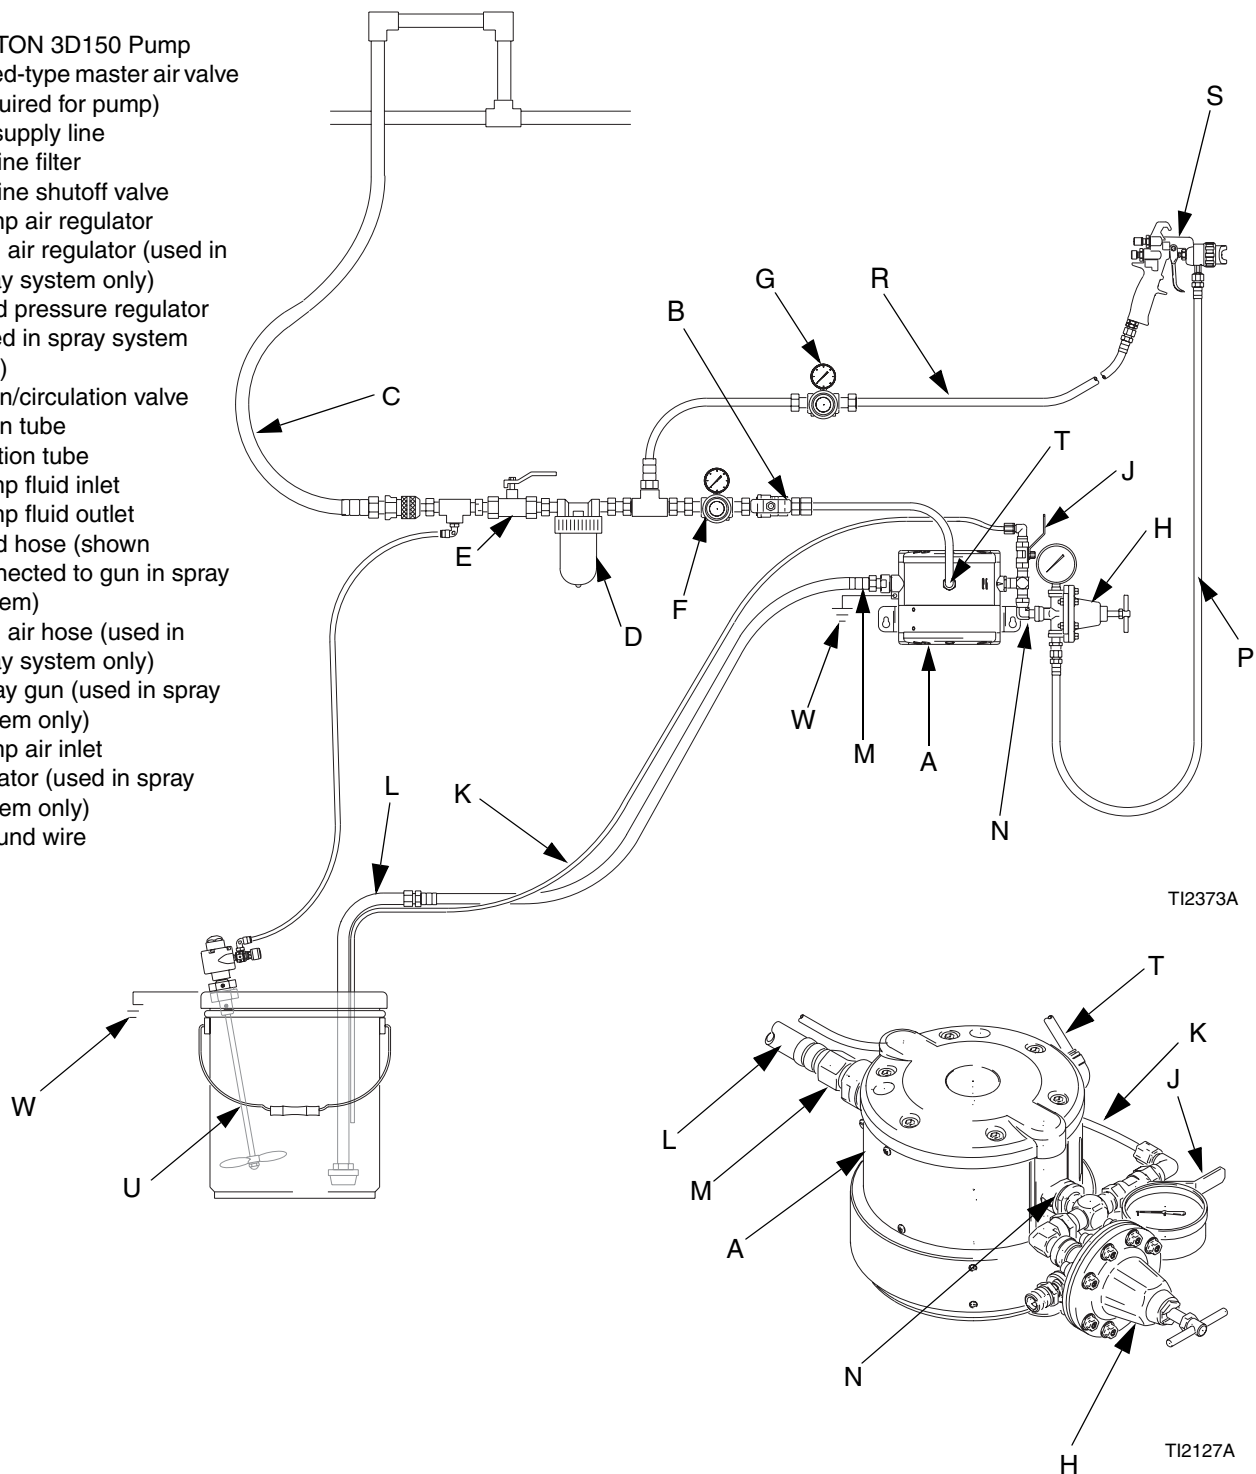

FIG. 2. Typical Installation
- FIG. 2 is only a guide for installing system components and accessories. It is not an actual system design. Contact your Graco distributor for assistance in designing a system to suit your particular needs.
1. Install the air line accessories as shown in FIG. 2. Be sure the air line supplying the accessories is grounded.
- a. The fluid pressure can be controlled with either an air regulator (F) to control the air into the pump, or with a fluid regulator (H) to control the fluid out of the pump.
- b. Install a bleed-type master air valve (B) close to the pump. This valve is required in your system to relieve air trapped between it and the pump when the valve is closed. Trapped air can cause the pump to cycle unexpectedly which could result in serious injury including splashing in the eyes or on the skin, or injury from moving parts. Be sure the bleed valve is easily accessible from the pump, and is located downstream from the air regulator.
- c. Install a second air valve (E) upstream from all air line accessories to isolate them during cleaning and repair.
- d. Install an air line filter (D) to remove contaminants such as dirt, moisture, and oil from the compressed air supply.
- Use conductive hoses (see FIG. 2). Screw the suction line into the pump inlet snugly while supporting the inlet with a wrench. Use a compatible liquid thread sealant on connections to prevent air from entering the fluid line.
1. Use electrically conductive fluid hoses (P). See FIG. 2. Screw the fluid fitting into the pump outlet (N) snugly while supporting the outlet with a wrench. See **Technical Data** on page 24 to determine the fluid outlet size of your pump.
2. Install a fluid regulator (H) at the pump fluid outlet to control fluid pressure, if desired. See **Air Line** step 1a for an alternative method to control pressure.
3. Install a fluid drain valve (J) near the fluid outlet.
3. Place the suction tube (L) in the fluid to be pumped.
4. Place the end of the fluid hose (P), see FIG. 2, into an appropriate container.
5. Close the fluid drain valve (J).
6. With the pump air regulator (F) closed, open the bleed-type master air valve (B).
8. Slowly open the air regulator (F) until the pump starts to cycle. Allow the pump to cycle slowly until all air is pushed out of the lines and the pump is primed.